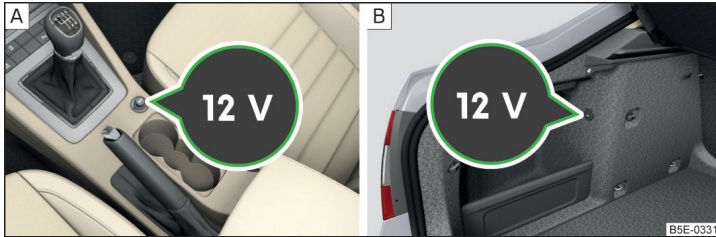

Fig. 90 Cover of the 12 volt power outlet: in the front centre console/ in the boot
Overview of the 12-volt power socket » Fig. 90
➤ Remove the socket cover » Fig. 90 - **A**.
- Open the socket cover » Fig. 90 - **B**.